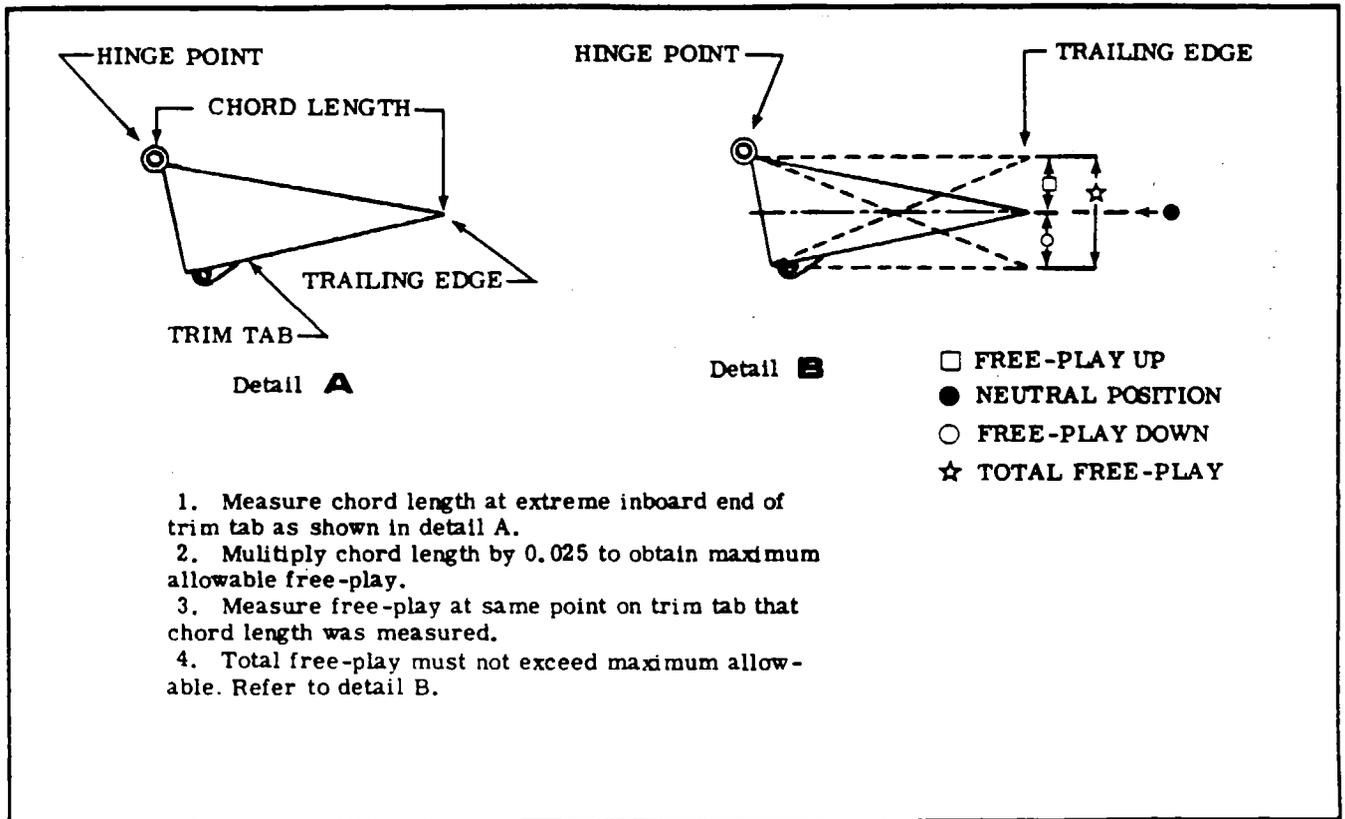

Figure 9-5A. Trim Tab Free-Play Inspection
9-14. TRIM TAB FREE-PLAY INSPECTION. (Refer to figure 9-5A.)
1. Measure chord length of extreme inboard end of the trim tab as shown in detail A, figure 9-5A.
Measure free-play at the same point on trim tab that chord length was measured. Total free-play must not exceed maximum allowable. Refer to detail B, figure 9-5A.